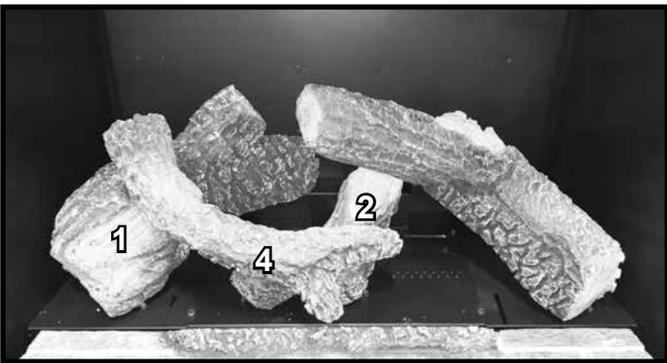

Figure 22 Log #4 Installed
**LOG #4:** Set the non-Y end of log 4 on the flat spot of Log #1. The Y-end of Log #4 will engage the flat spot of Log #2. See Figure 22.